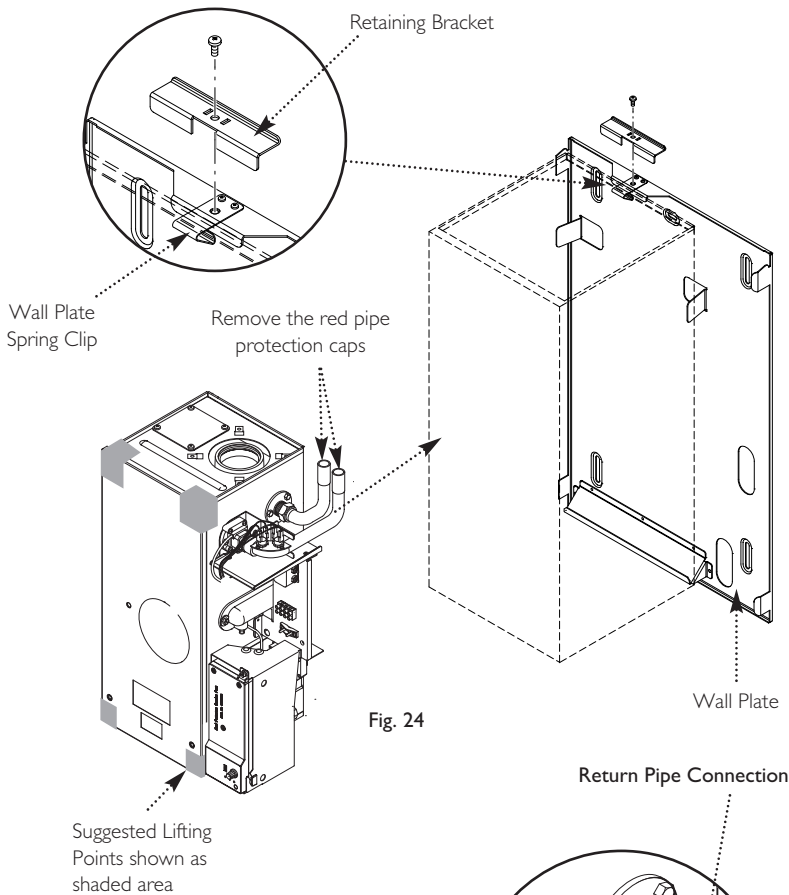

Fig. 24
8.3 Fitting The Boiler (Fig. 24)
2. Offer up the boiler to the wall plate using the lifting points shown in Fig. 24 and locate the rear bottom edge onto the self locating support at the base of the wall plate. (See **Safe Manual Handling** page 5).
NOTE: When installing in Loft/Small Compartment access for lifting the boiler from the front can be gained for two people using the lifting points. (Fig. 24).